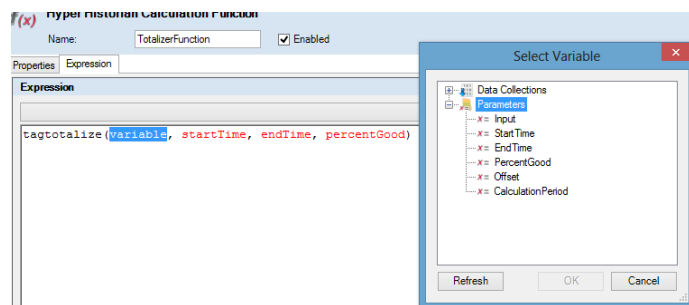

Figure 7 Variable Browser
- The expression sections in red will need to be replaced for the function to be validated and accepted, first select the text “variable” and open the Variables browser by clicking on the **Variables** button, as shown in Figure 7 and double click the “Input” parameter